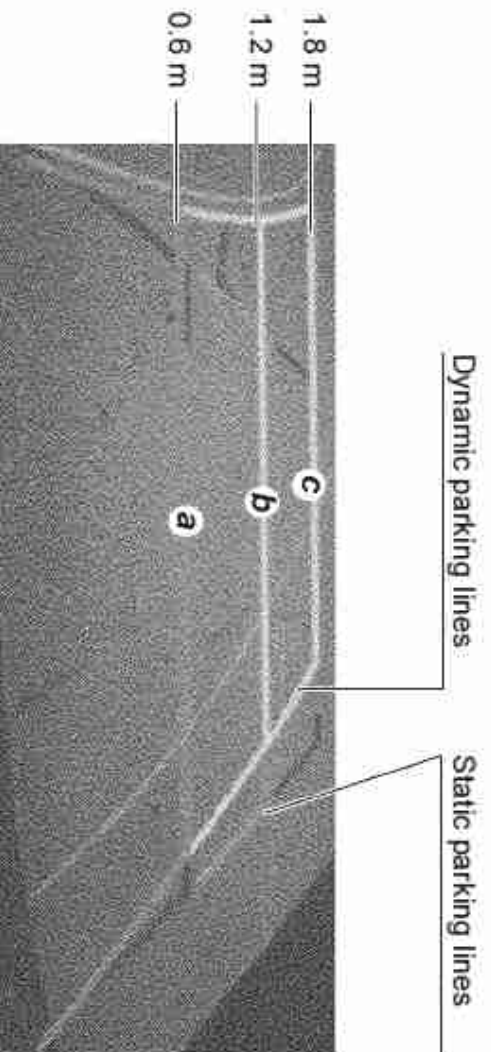

Fig. 3.17. Static and dynamic parking lines:
The parking assistance system (Fig. 3.17)
Rear view camera is embedded into the licence plate lamp lining and is intended to assist the driver when driving in reverse, it displays the information about the situation on the road behind the motor vehicle on the screen. Rear view camera displays on the screen of multimedia system guide static (driving corridor) or dynamic (depending on the steering wheel angle of rotation) parking lines and the view behind the motor vehicle Fig. 3.17.
Distance line (red) Fig. 3.17.
- instrument cluster (IC). Shows the current of CC and OSL functions;
- steering system keys unit (Fig. 3.17). It is intended for CC and OSL functions control;